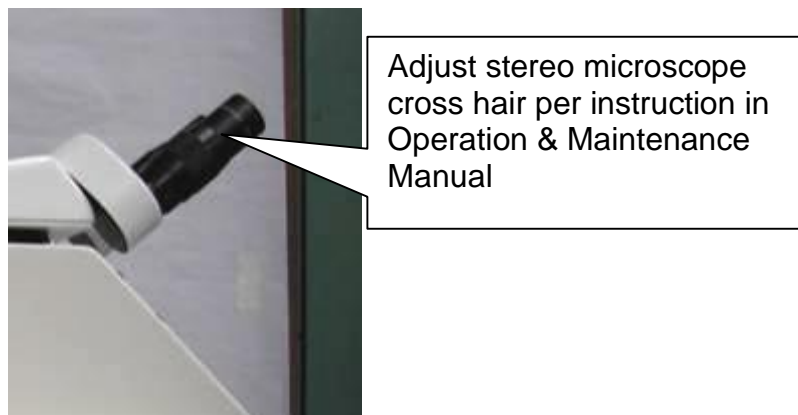

Figure 15
- J Plug in the machine & make sure the stereo microscope cross hairs are still aligned. **Figure 15** (Note: Refer to the “Optical Mounting and Alignment” section of the Operation & Maintenance Manual)